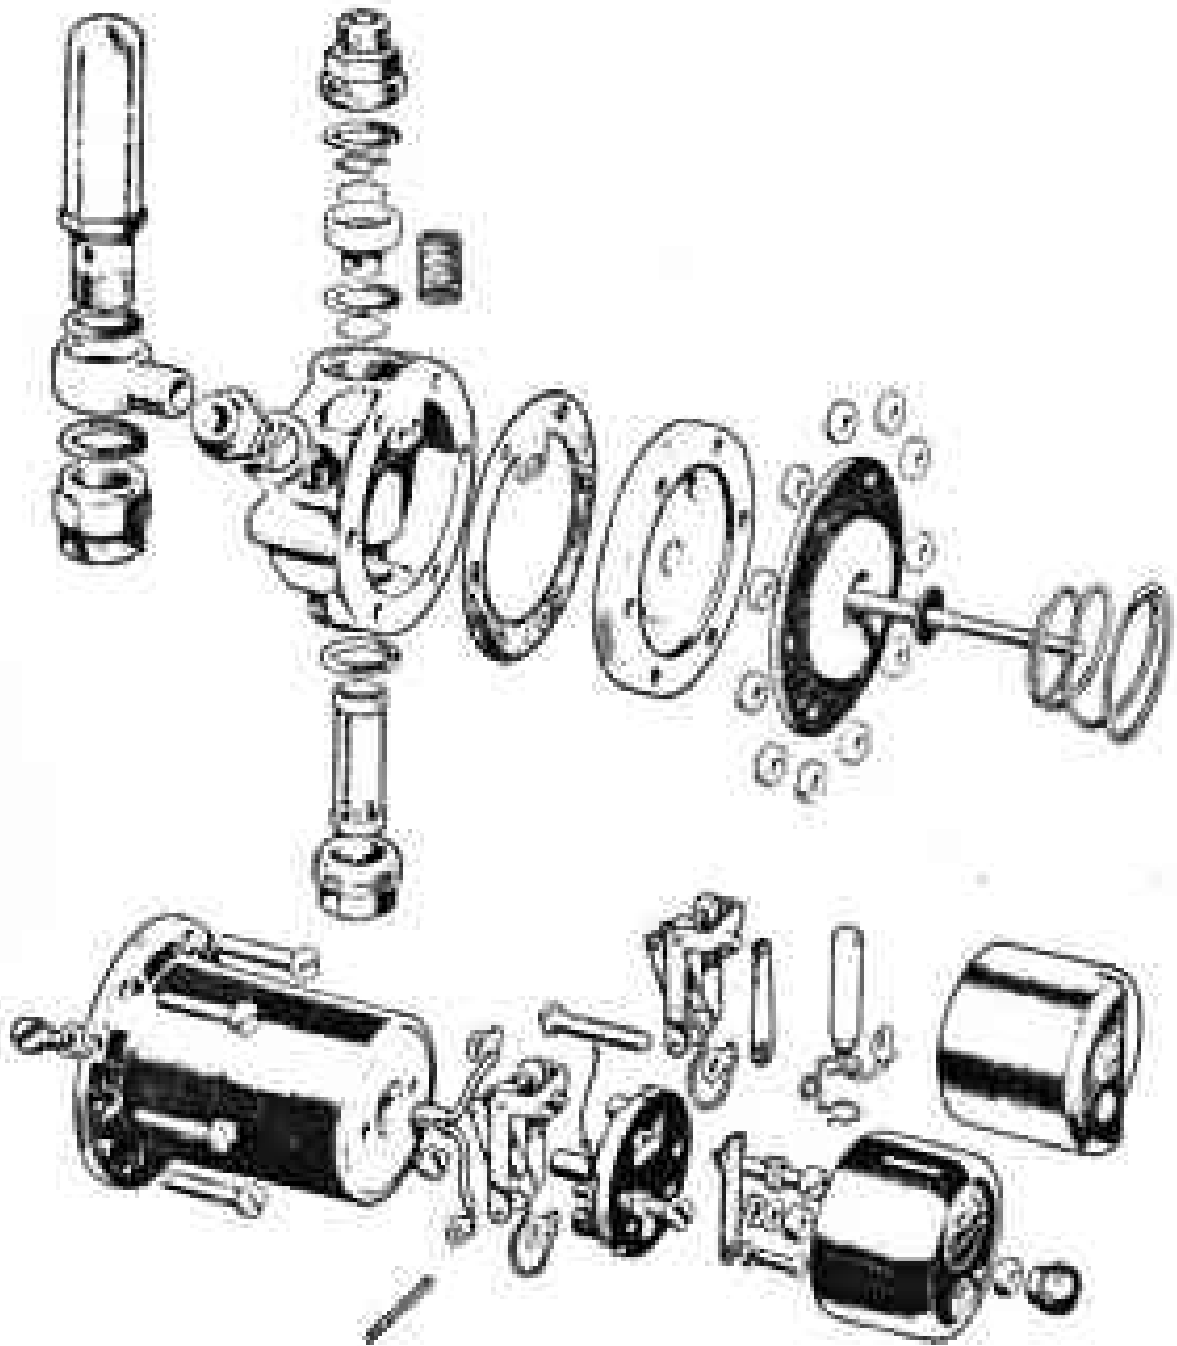

FIG. 106 EXPLODED VIEW OF 'H.P.' TYPE S.I. FUEL PUMP
H.P. (high pressure) type (Fig. 106) is designed to give an increased pressure feed to the carburettor, and has a maximum capacity of 10 gallons per hour.